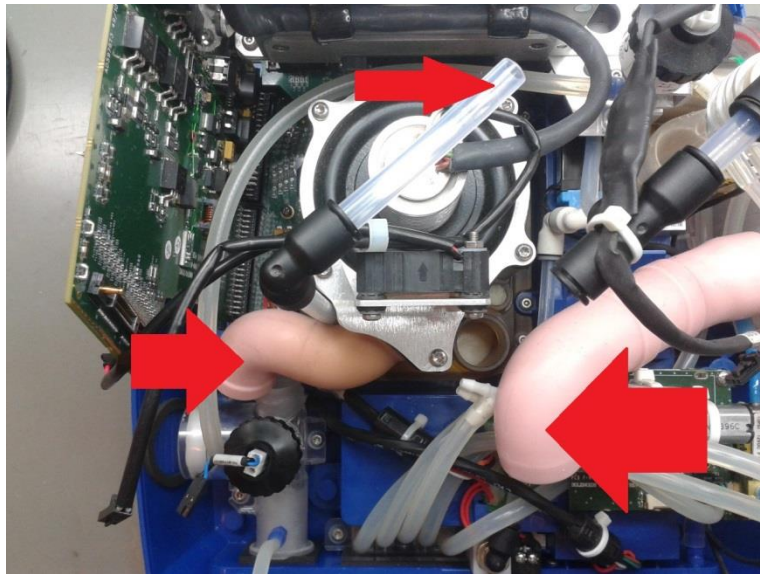

Figure 30 – Blower disconnection
5. Disconnect the internal mixer tubing ***(for IO2 models only – see Figure 30)**
6. Disconnect the Inlet and outlet silicon hoses (see Figure 30)